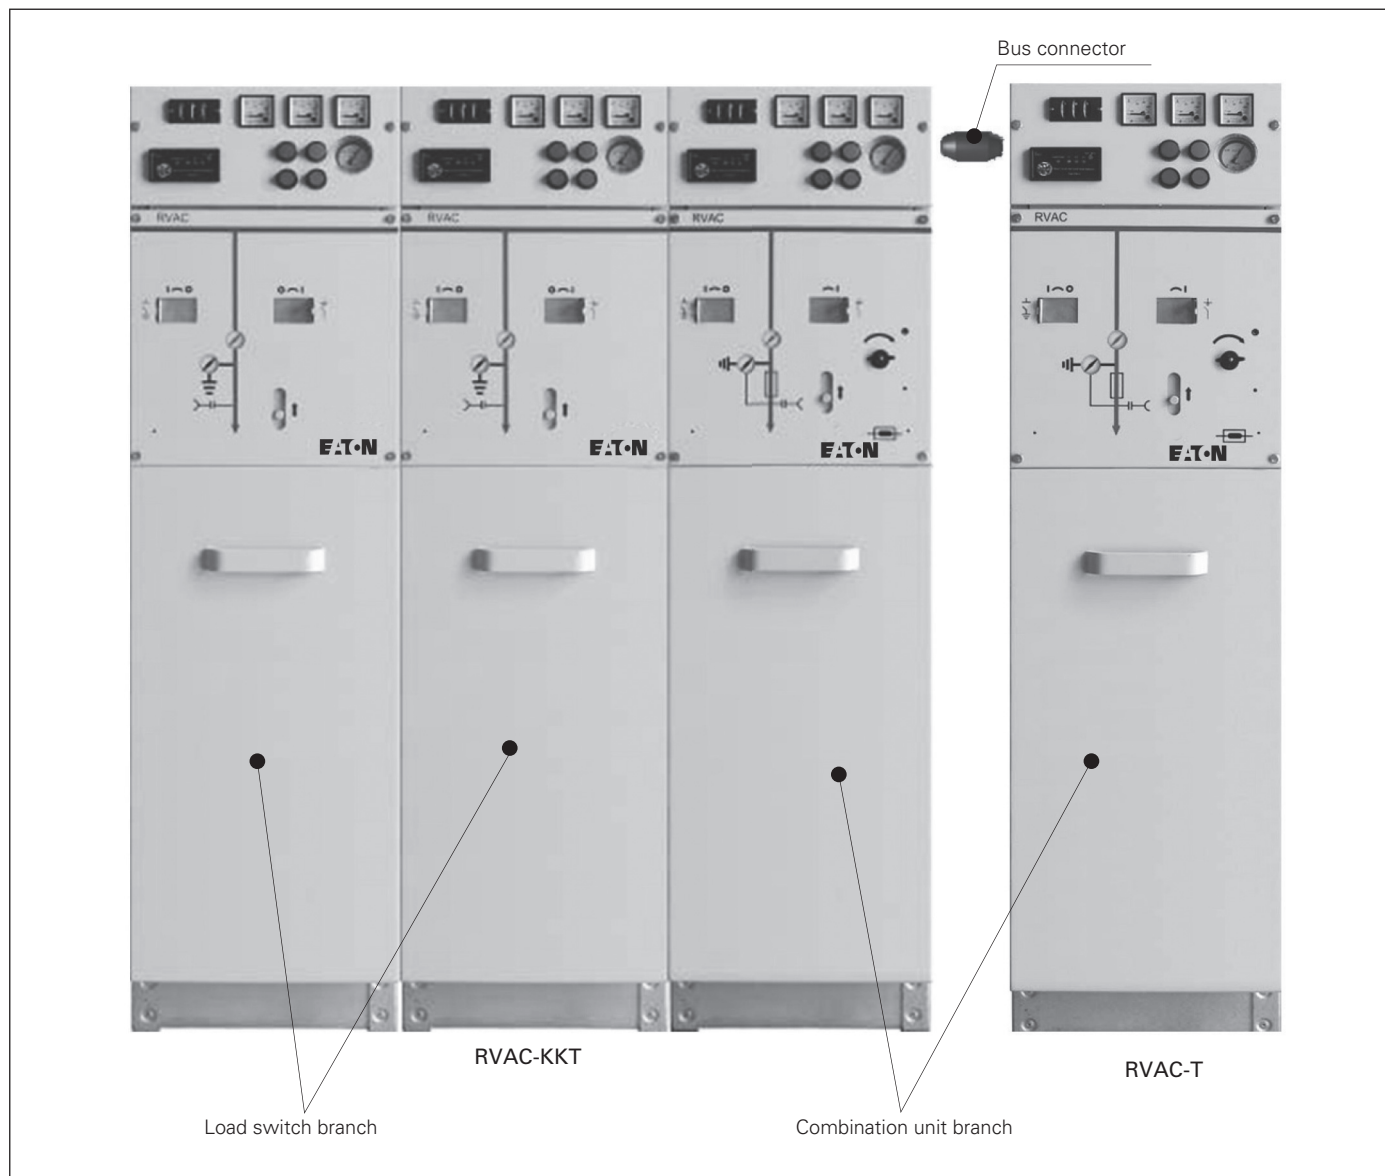

Figure 4 RMU structure diagram
7. Typical schemes and structures (see Figure 4, 5 and 6)
The layout of the typical scheme is shown in **Figure 4** (RVAC-KKT).